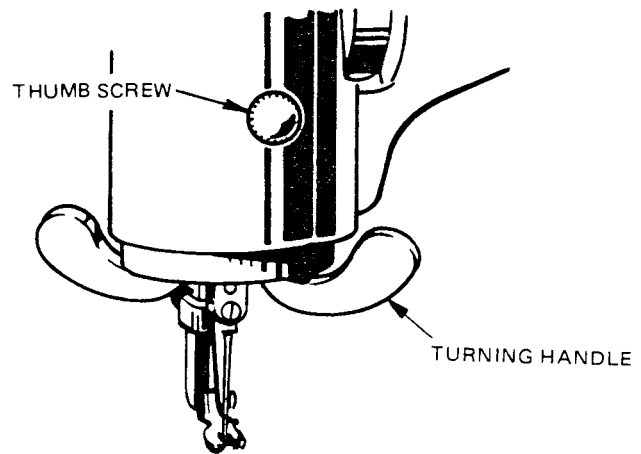
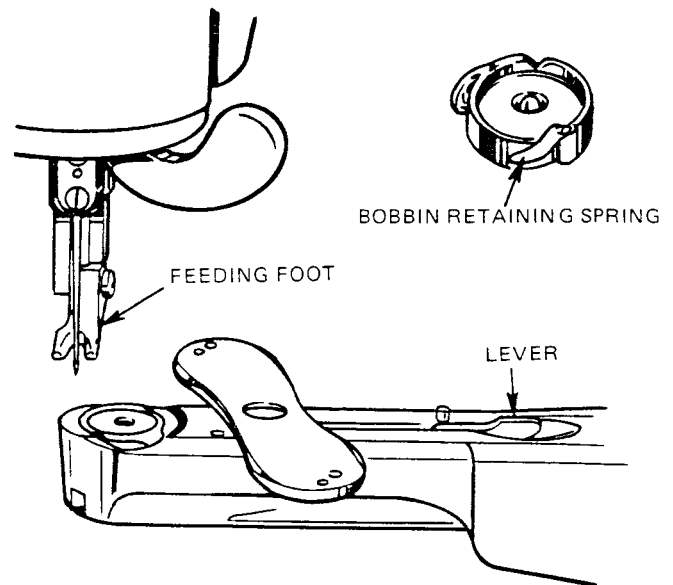

Fig. 5
Fig. 7
Material is moved along by the feeding foot only, and the direction of stitching can be changed as desired by turning handle, Fig. 5. To make a curved stitching, operate machine slowly and without turning work, turn the turning handle enough to produce the desired curve.
Feeding foot rises between each stitch while needle is in the material. With needle serving as pivot, material can be turned in any direction. When desired, the feeding foot may be fixed to feed in a straight line in any direction, by tightening the thumb screw shown in Fig. 5.
Raise needle bar to its highest point and lift feeding foot shown in Fig. 7 by moving lifter shown in Fig. 5 upward.
Press down lever shown in Fig. 7 and swing needle plate around as shown.
**NOTE:** For 29U172A machine, move bobbin retaining spring shown in Fig. 7 outward before taking out the bobbin.